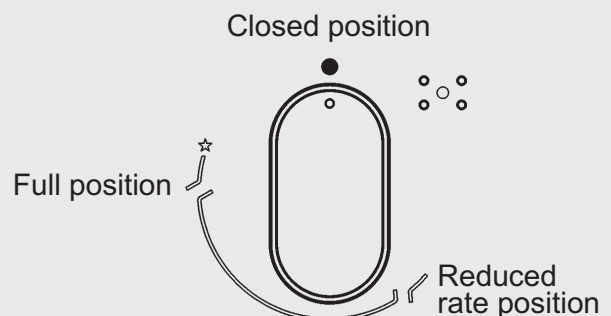

FIG. 22
Push and turn the knob corresponding to the required burner in an anticlockwise direction until it reaches the full on position (large flame fig. 22), then depress the knob.
The knobs of burners equipped with flame failure device must be turned in an anticlockwise direction until they reach the full on position (large flame fig. 22) and come to a stop. Now depress the knob in question and repeat the previously indicated operations.
- When the pan comes to the boil, set the knob to the reduced rate position (small flame fig. 22).
- burners with flame failure device may only be ignited when the relative knob has been set to the Full on position (fig. 22).